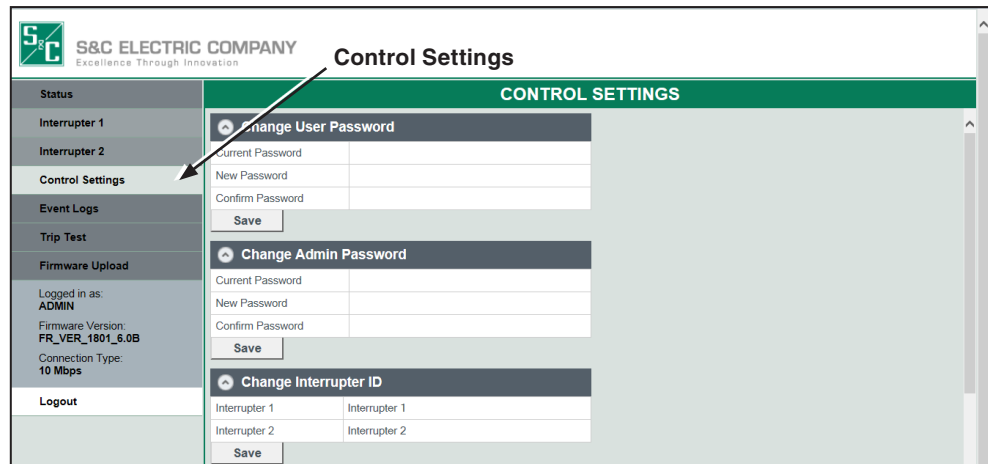

Figure 7. The “Change Admin Password” menu.
STEP 2. Click on the “Control Settings” tab on the side menu. Then navigate to the “Change Admin Password” section of the **Control Settings** tab. See Figure 7.